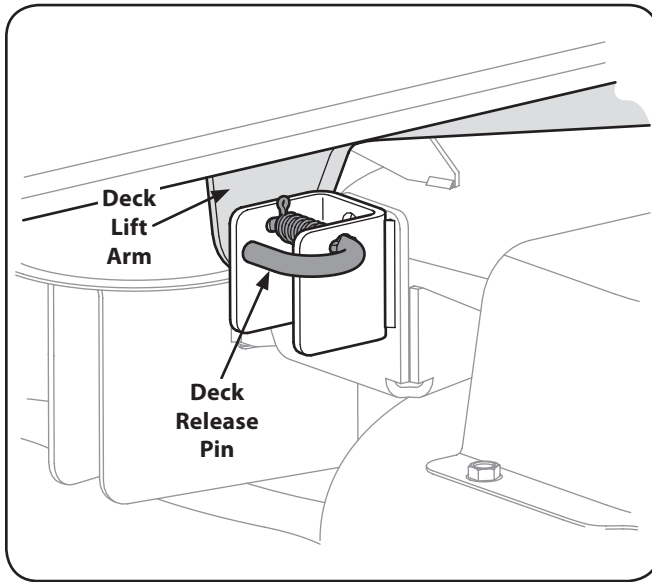

Figure 7-6
8. Locate the LH and RH deck release pins on each side of the deck. Pull the release pins outward and release the deck from the LH and RH deck lift arms. See Figure 7-6.
4. Pull the deck release pins outward and maneuver the deck as necessary to align the holes in the deck lift arms with the pins. Refer to Figure 7-6.